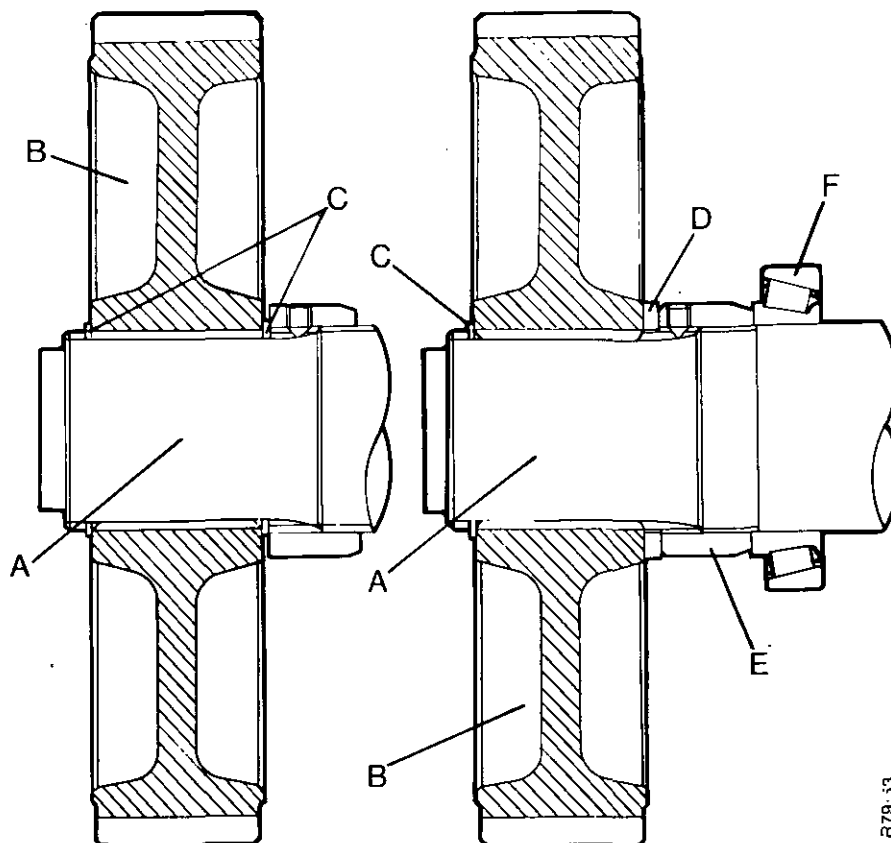

FIGURE 123. FINAL DRIVE SHAFT AND GEAR
8. Install the circlip in the groove next to the locknut on tractors before serial number 11204637. After this number a special washer is installed instead of the circlip. The washer is available in different sizes to give 0.10 mm to 0.66 mm shaft end movement. See D Figure 123.